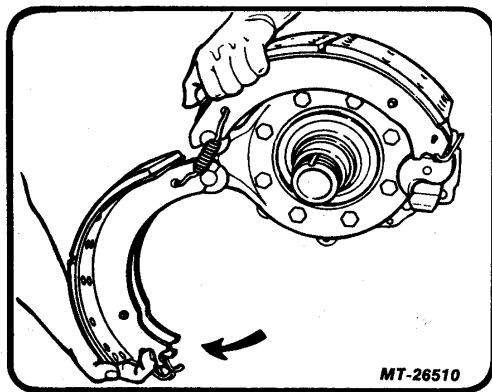
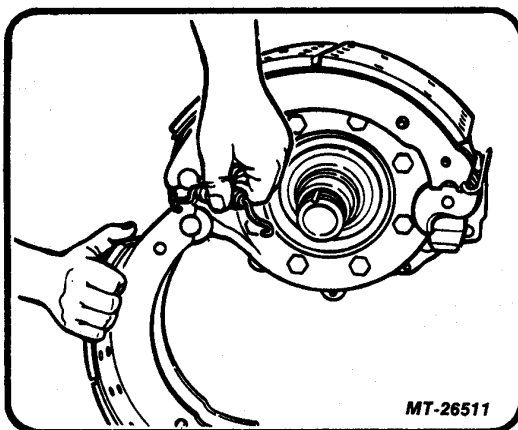

Fig. 15 Rotate Lower Shoe Approximately 180°
Fig. 16 Removing Retainer Springs
- Swing lower shoe back about 180° to relieve the tension on the retainer springs (Fig. 15). Then remove the inboard and outboard retainer springs (Fig. 16).